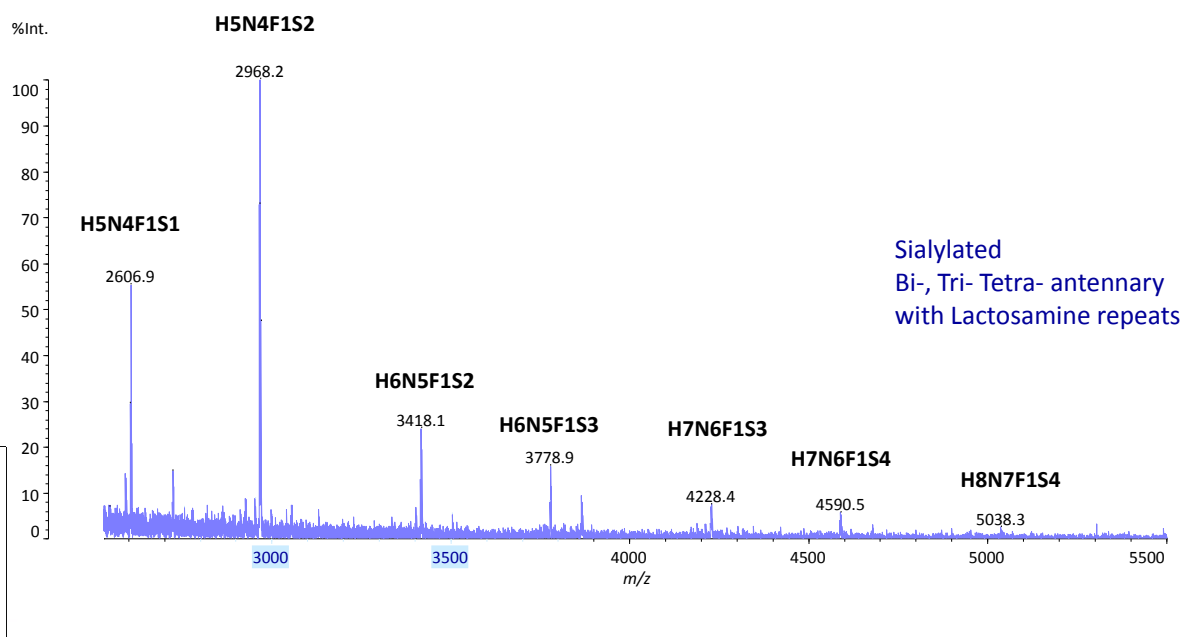

Figure 5: MALDI analysis of permethylated EPO N-glycans
- d) Mass composition data can be obtained by MALDI analysis following permethylation to stabilise the sialic acids (Figure 5).